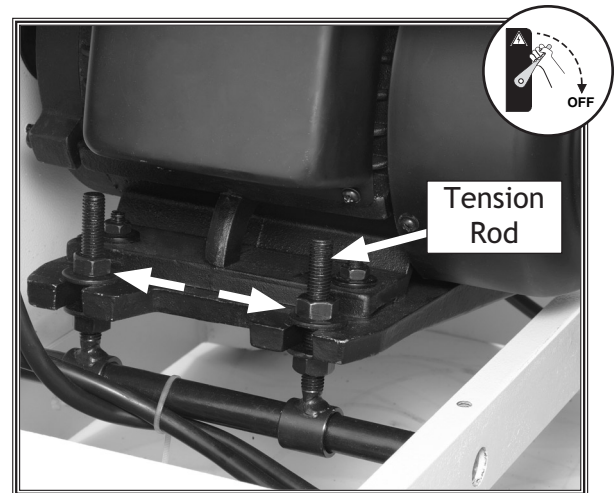

Figure 15. Fasteners needed to be loosened for V-belt replacement.
3. Using a 19mm wrench, loosen the hex nuts on the tension rods shown in **Figure 15**.